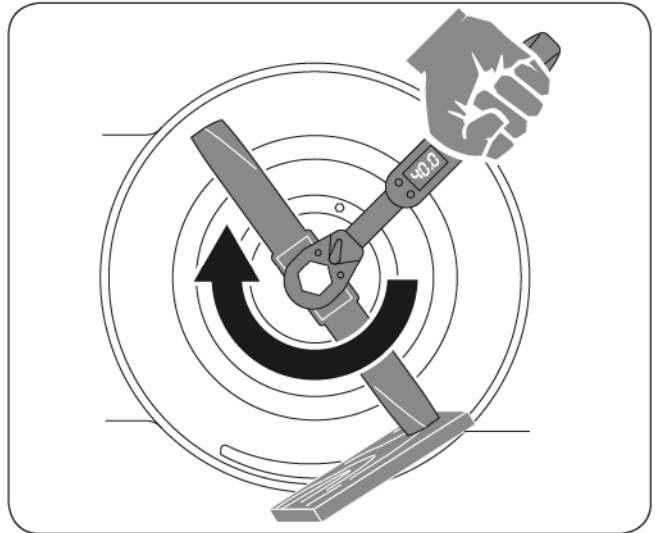

Figure 16
5. Install the new blade. Use a block of wood between the blade and lawn mower housing and tighten the blade bolt, turning clockwise. The recommended tightening torque is 33.3-40 ft.-lb. (45-55 Nm). (See **Figure 16**)